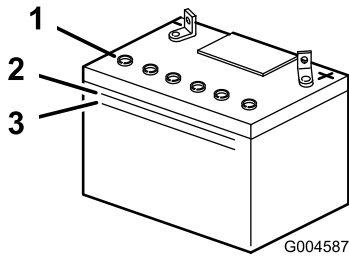

Figure 27
2. Look at the side of the battery. The electrolyte must be up to the upper line (Figure 27).
Note: Do not allow the electrolyte to fall below the lower line (Figure 27).
3. Remove the vent caps from the battery (Figure 27).
4. Slowly pour distilled water into each battery cell until the electrolyte level is up to the upper line (Figure 27) on the battery case.
5. Wait 5 to 10 minutes after filling the battery cells. Add distilled water, if necessary, until the electrolyte level is up to the upper line (Figure 27) on the battery case.